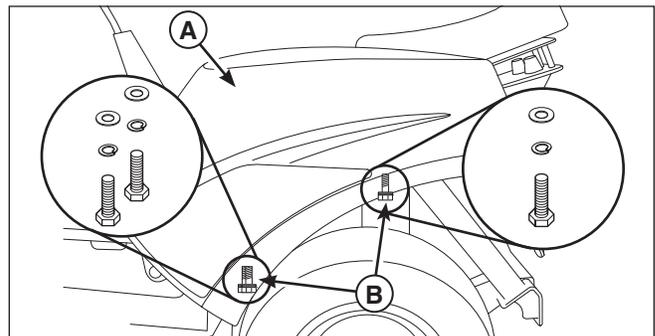

Figure 57. Removing the Fuel Tank
3. Remove the left fuel tank (A, Figure 57) from the unit by unbolting the three (3) bolts, lock washers and washers (B) that secure the fuel tank to the unit. The fuel line is still connected to the fuel tank. Position the tank so that you can access the operator compartment pivot hardware, but do not remove the tank from the unit.
10. Install the right tank (**A**, **Figure 57**) on the machine and secure in place using the three (3) wing bolts (**B**).